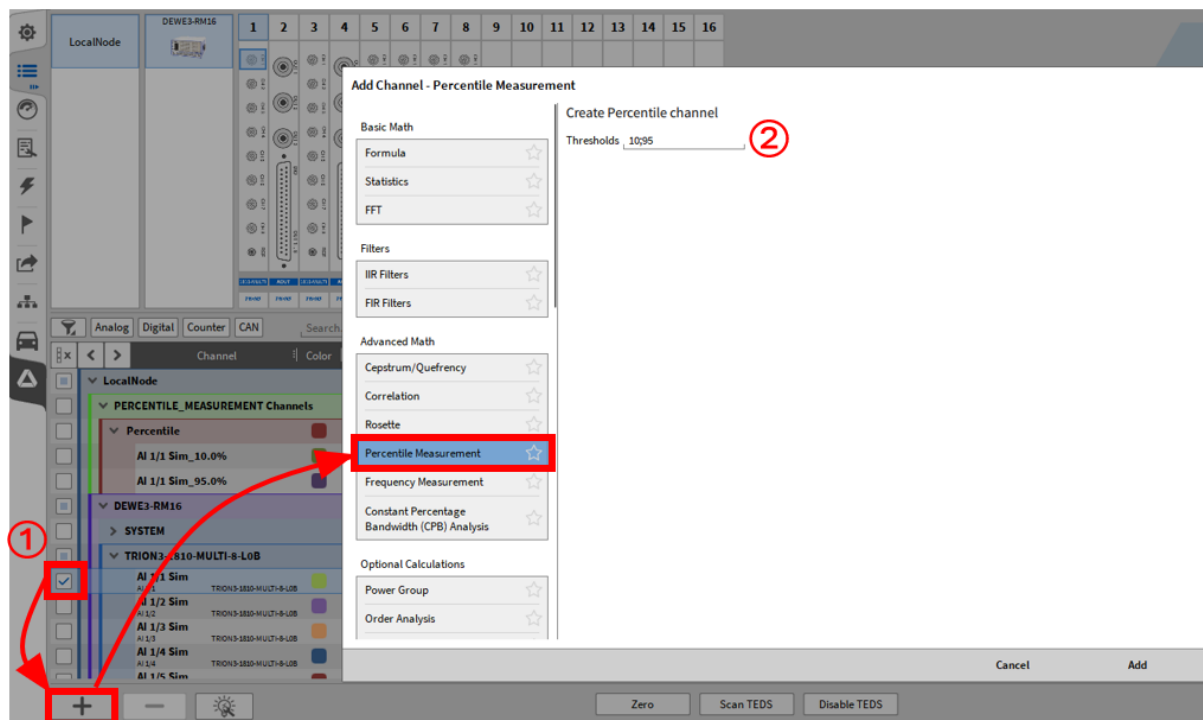
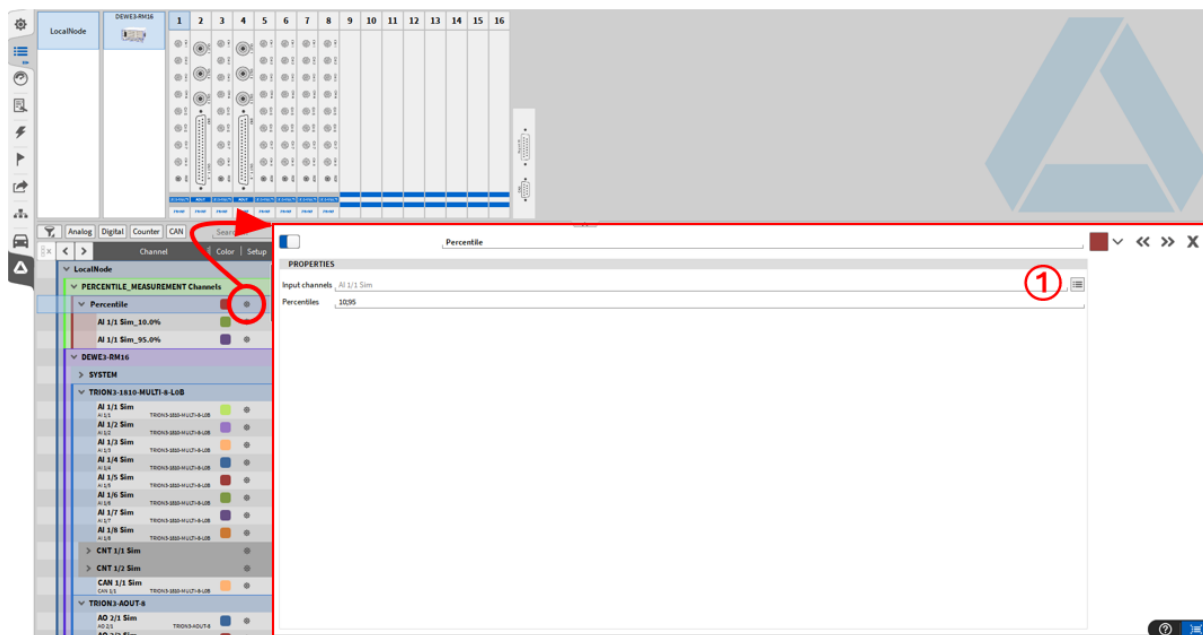

Fig. 7.117: Add a percentile measurement
Fig. 7.118: Subsequent changes to the percentile measurement
To create one or more channels for a percentile measurement, click on the + button in the bottom left corner of the channel list. A pop-up window appears in which the percentile measurement must be selected in the list (see Fig. 7.117). One or more channels must be selected in the channel list before clicking on the + button (see ① in Fig. 7.117). It is also possible to add channels for the measurement afterwards (see ① Fig. 7.118). You can specify 1 or more threshold values in %. When selecting multiple threshold values, the individual values must be separated by “;” (see ② in Fig. 7.117).
After clicking the Add button, a new section appears in the channel list called PERCENTILE MEASUREMENT Channels. To change the settings afterwards or to add channels or thresholds, click on the small cogwheel (see Fig. 7.118).